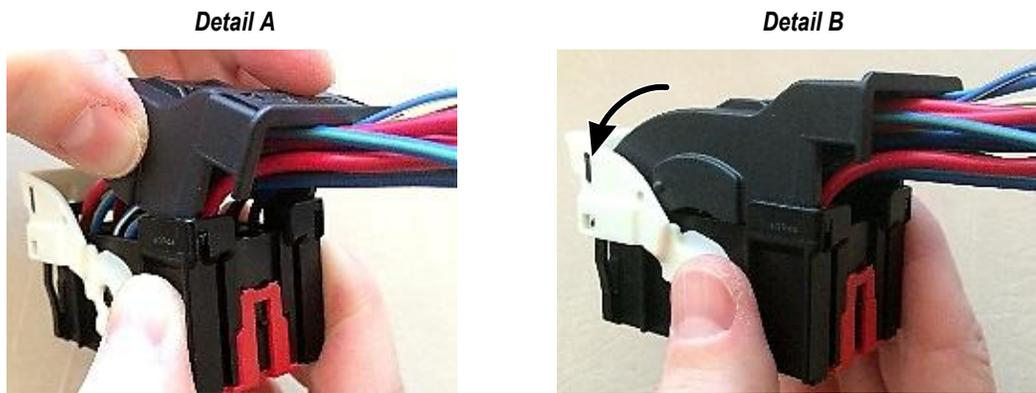

Figure 3
2. Align the bottom of the wire dress cover with the wire end of the housing so that the wire exit is over the wire bundle. Then, position the retention tabs of the wire dress cover into the retention slots of the housing. See Figure 3, Detail A.
3. Ensure that the wire bundle is completely captured within the wire dress cover and no wires are pinched between the housing and the wire dress cover, then push the wire dress cover onto the housing until both ends of the wire dress cover lock into place. There will be an audible and tactile click. See Figure 3, Detail B.